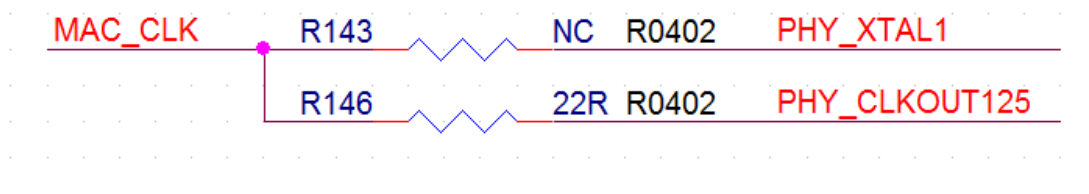

Figure 21-11
- R146 in Figure 21-11 should be placed close to PHY and shielded by GND traces, the traces are as short as possible, and make sure the reference plane is complete.